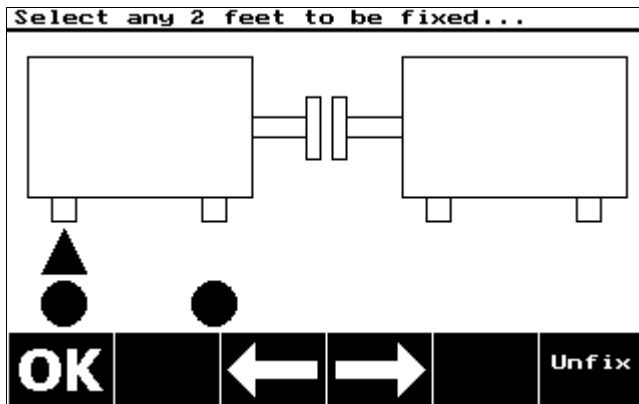

Figure 10
- 3) Use the **←** and **→** soft keys to move the triangle cursor under any foot and fix or unfix the foot using the **Fix** or **Unfix** soft keys as needed to make the left machine feet moveable and the right machine feet static (see Figures 10 and 11). A black circle under a foot signifies it is fixed, or static. Press **OK** when finished. □